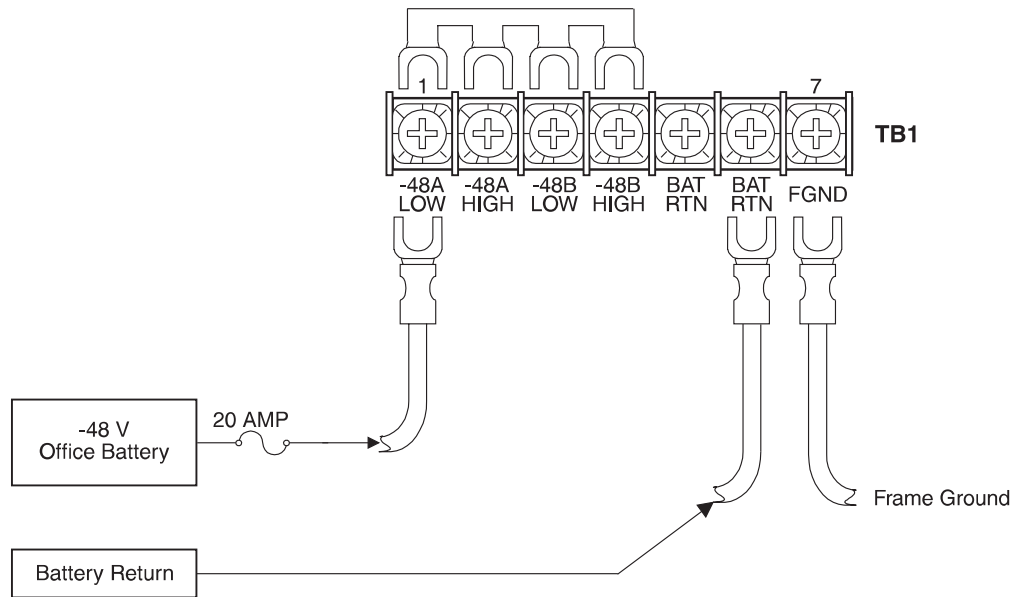

Figure 8 Single-Source Power Wiring
- 2 Connect a wire to the -48A-LOW terminal at TB1 (Figure 8). Connect the opposite end of this wire to the -48 V dc CO battery supply at the fuse panel.